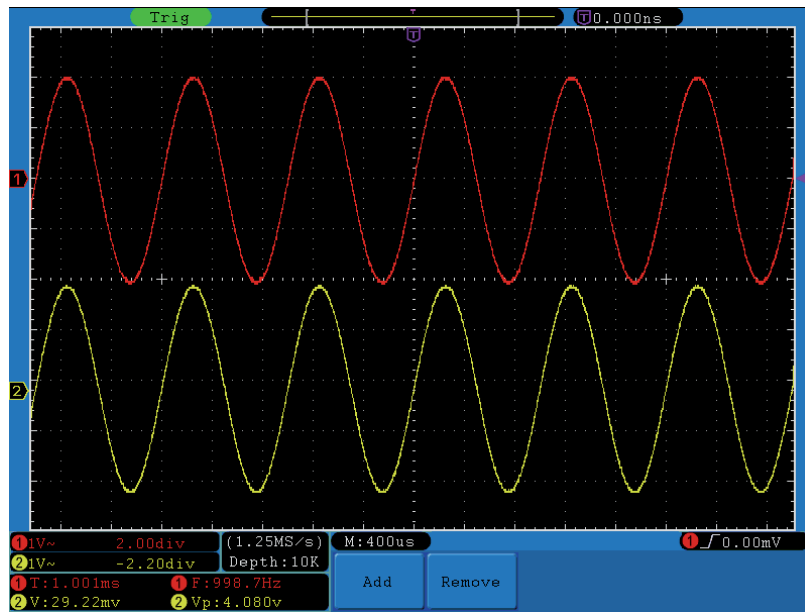

Figure 62. Automatic measurement.
- 13 The measured value will be displayed at the bottom left of the screen automatically (see Figure 62).